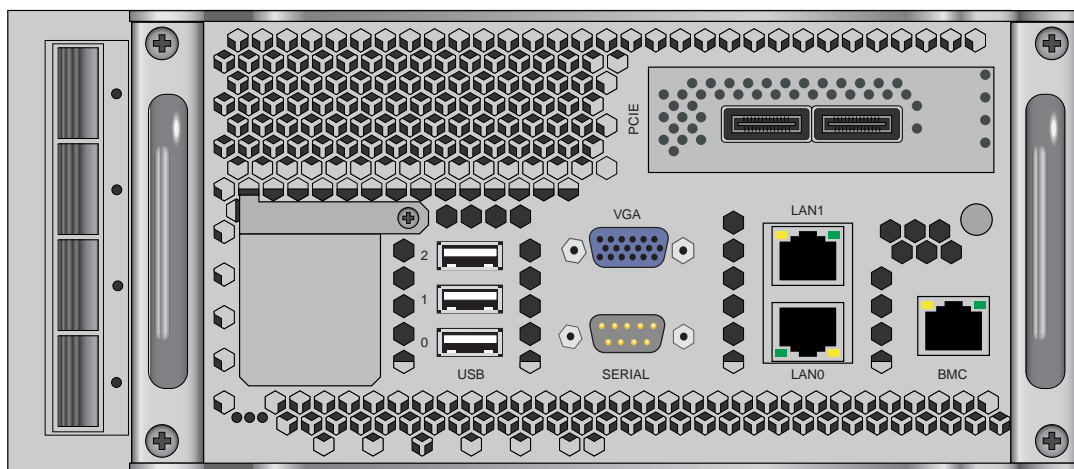

Figure 3-6 BaseIO Riser Enabled Blade Front Panel Example
- **BaseIO enabled compute blade.** I/O riser enabled blade that supports all base system I/O functions including two Ethernet connectors, one BMC Ethernet port and three USB ports. System disks are always controlled by a PCIe disk controller installed in the BaseIO blade's PCIe slot. Figure 3-6 on page 50 shows a front-view example of the BaseIO blade.